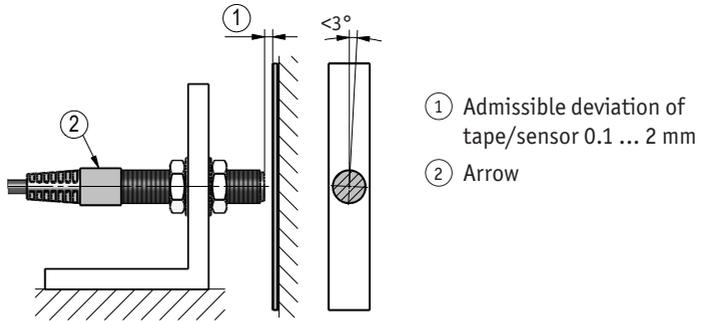

Fig. 11: Mounting sensor / magnetic tape, gap measure, tolerances
► Take care that the magnetic sensor is aligned correctly in order to ensure optimum sensing (see Fig. 10, Fig. 11).